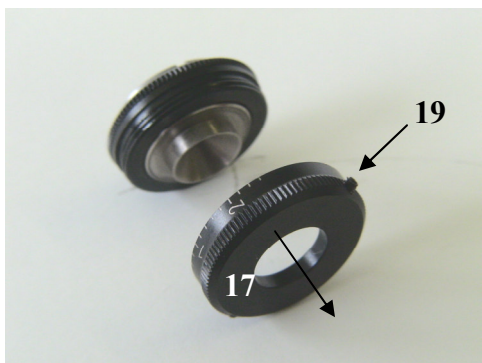

Fig. 11
- Loosen screw **(19) (black)** and remove centering scale **(17)** with a slight turning movement Fig. 11.